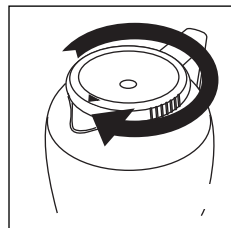
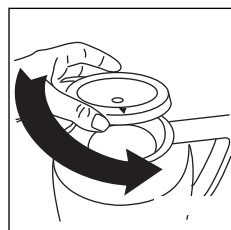

fig. 9
fig. 10
- **Models with thermal jug:** To pour the coffee, turn the lid to the position shown in (fig. 9). To completely remove the lid from the jug, turn it to the position shown in (fig. 10). The appliance switches automatically off after brewing cycle.